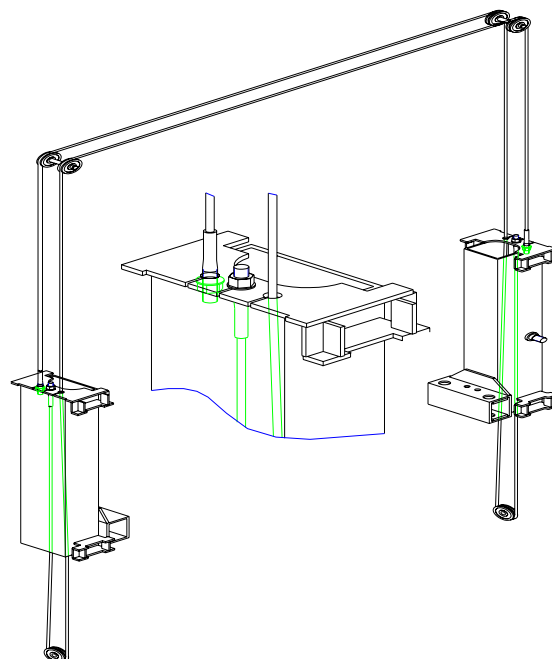

Fig. 12
10. Routing carriage equalization cables and offside hose, Figure 12.